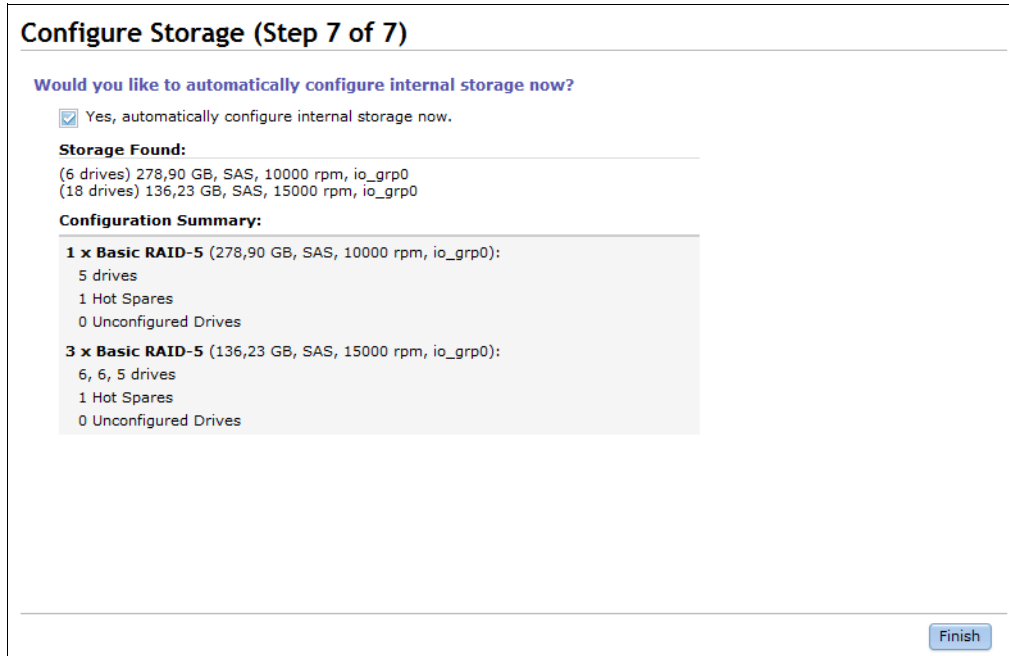

Figure 4-20 Select “Yes” to automatically configure internal storage now
9. Select **Yes** to automatically configure internal storage now if preferred (Figure 4-20).